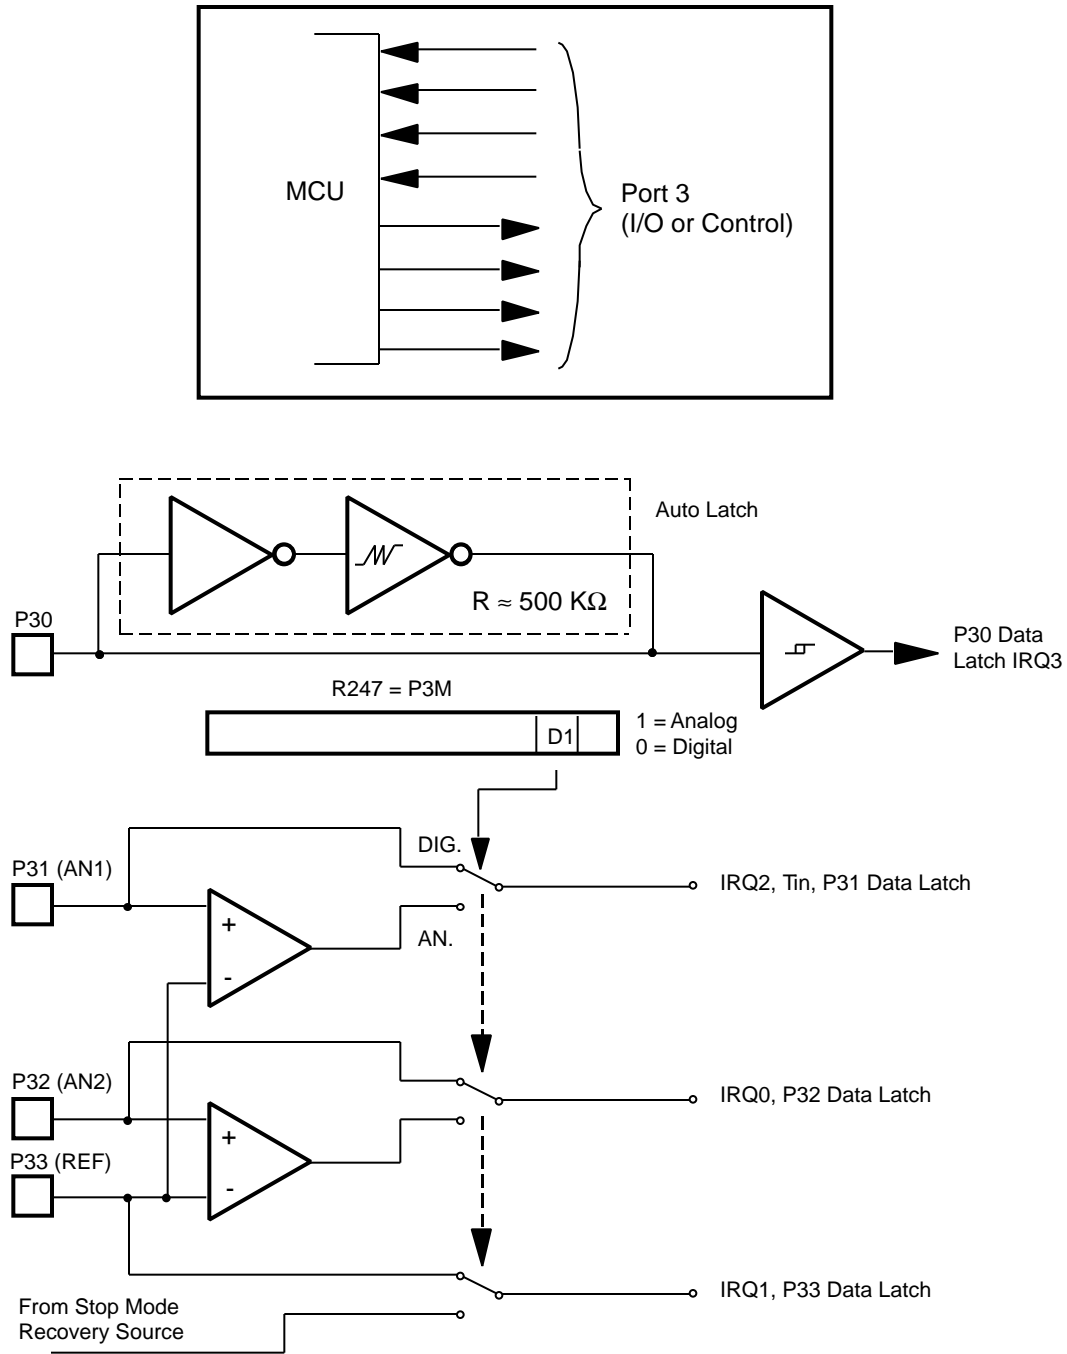

Figure 21. Port 3 Configuration
**Port 3 (P37-P30).** Port 3 is an 8-bit, CMOS-compatible port with four fixed inputs (P33-P30) and four fixed outputs (P37-P34). These eight lines can be configured by software for interrupt and handshake control functions. Port 3, Pin 0 is Schmitt-triggered. P31, P32, and P33 are standard CMOS inputs with single trip point (no Auto Latches) and P34, P35, P36, and P37 are push-pull output lines. Low EMI output buffers can be globally programmed by the software. Two on-board comparators can process analog signals on P31 and P32 with reference to the voltage on P33. The analog function is enabled by setting the D1 of Port 3 Mode Register (P3M). The comparator output can be outputted from P34 and P37, respectively, by setting PCON register Bit D0 to 1 state. For the interrupt function, P30 and P33 are falling edge triggered interrupt inputs. P31 and P32 can be programmed as falling, rising or both edges triggered interrupt inputs (Figure 21). Access to Counter/Timer 1 is made through P31 ( $T_{IN}$ ) and P36 ( $T_{OUT}$ ). Handshake lines for Port 0, Port 1, and Port 2 are also available on Port 3 (Table 9).